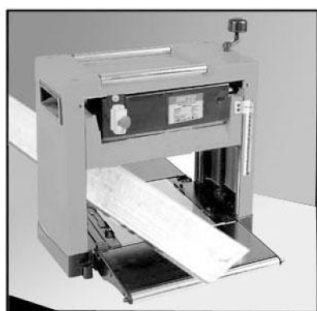

FIG. 7
1. To reset the protection device, first disconnect the cable from the power supply and then press the button on the device (I).
**Extension table adjustment (Fig. 7 - 9)**